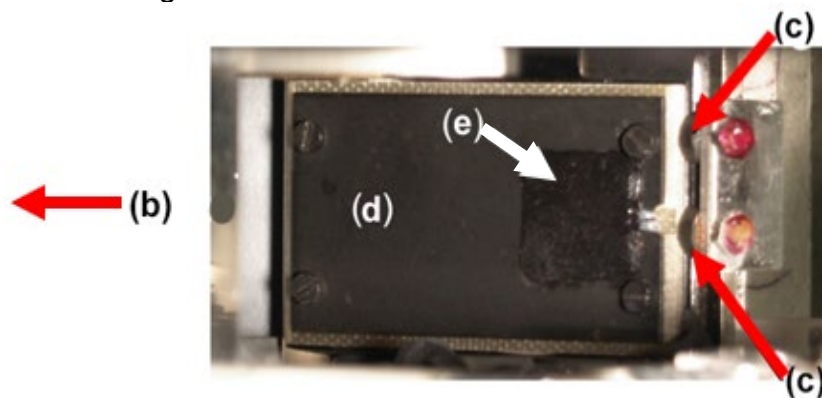

Figure 9 - Shutter – view reference heating surface
- 6.1 Check the condition of the HBD EPOS-Unit damping elements on crack formation and other damages. See arrows in Figure 9.